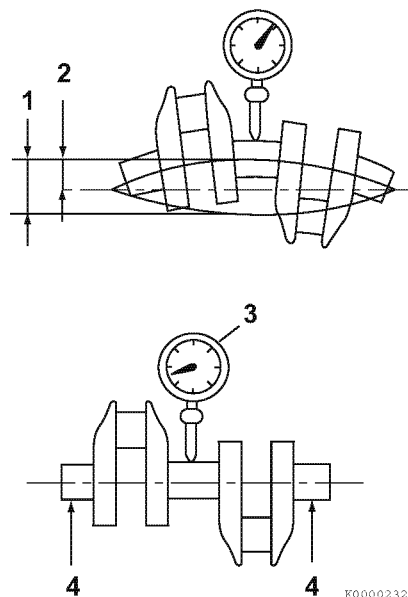

Figure 6-75
1. Place the crankshaft end journals (**Figure 6-75, (4)**) on V-blocks.
2. Place a dial indicator (**Figure 6-75, (3)**) on a center main bearing surface.